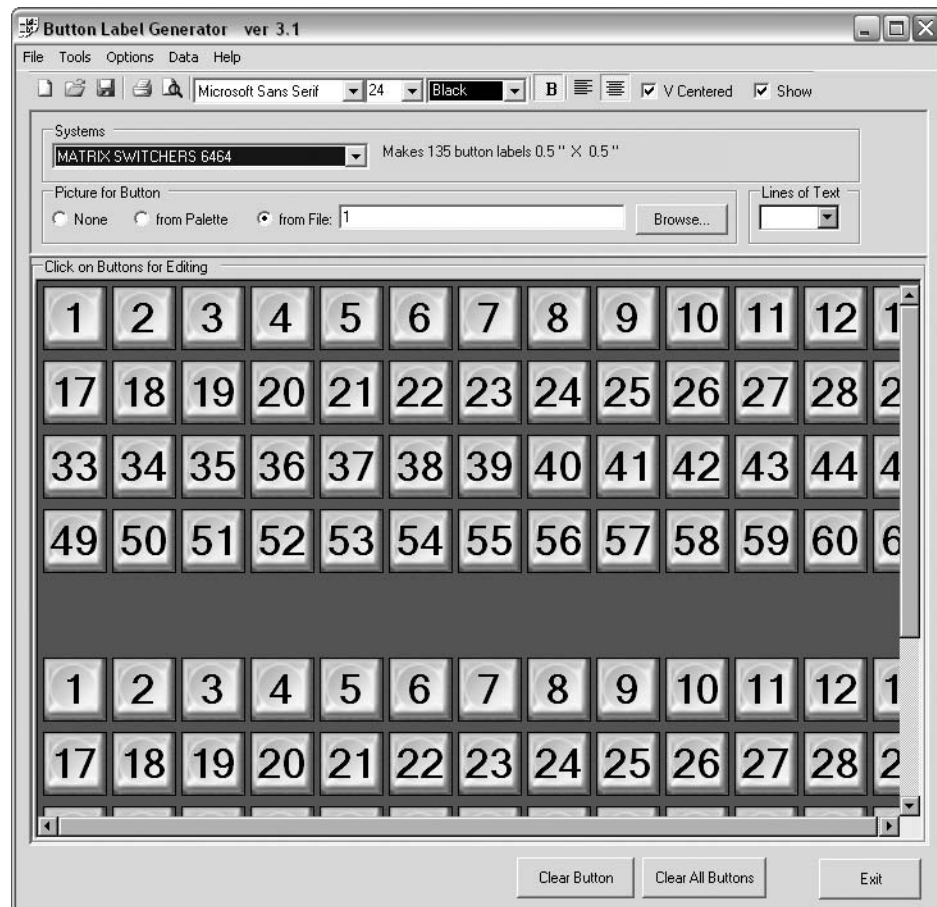

Figure 5-19 — Extron's Button-Label Generator window
1. To run the Button-Label Generator program, click **Start > Programs > Extron Electronics > Button Label Generator > Button Label Generator**. The Button-Label Generator window appears (figure 5-19).